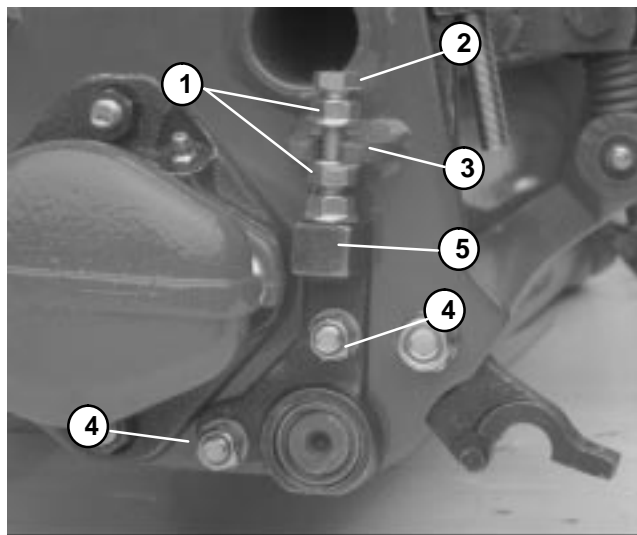

Figure 31
2. Loosen both flange lock nuts securing the hex head flange screw to the frame tab (Fig. 31).
5. Remove both lock nuts and flat washers from each carriage screw securing the pivot hubs to the frame (Fig. 31 and 32).
3. Secure carriage screws with flat washers and lock nuts (Fig. 31 and 32).